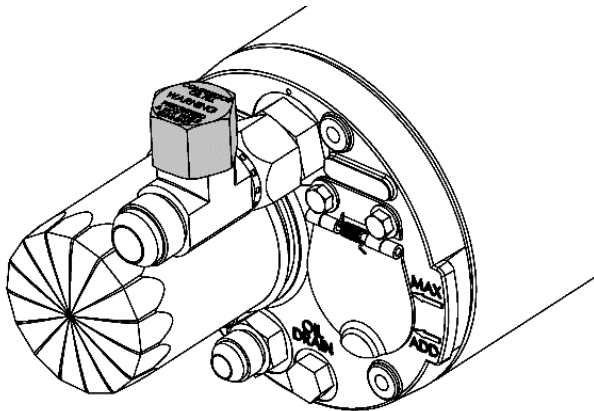

Figure 4 - Optional Oil Fill Location
- Install the oil fill tee fittings (3800825) as shown in Figure 4. When installing, ensure that the cap is upright and easily accessible.